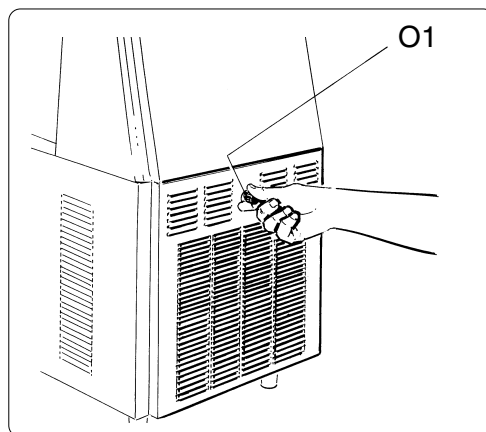

Fig. 41
- unscrew the knob (O1) so that the rear panel (P1) is released (fig. 41).